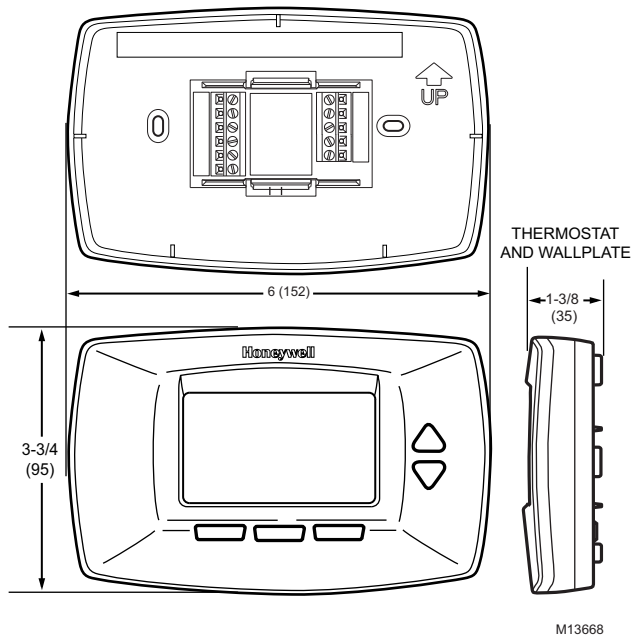

Fig. 1. TB7100 Thermostat dimensions in in. (mm).
- TB7100 Thermostat: See Fig. 1.